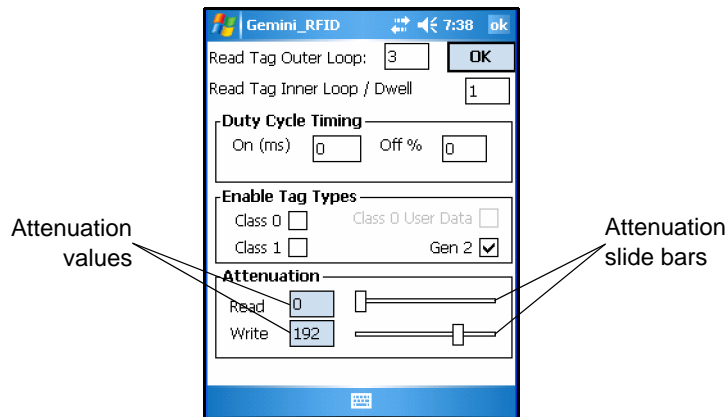

Figure 5-5 RFID - Settings Window
Use the Attenuation Slide Bar (see Figure 5-5 on page 5-8) to set the power range from 0 (full power) to 255 (low power). Drag the Attenuation Slide Bar to optimize tag reading and to minimize interference. For closer tag use a lower setting and for further away tag use a higher setting.
3. Set the RFID signal power. Use the *Attenuation* slide bar (see Figure 5-5 on page 5-8) to set a value in a range between 0 (full power) and 255 (low power).